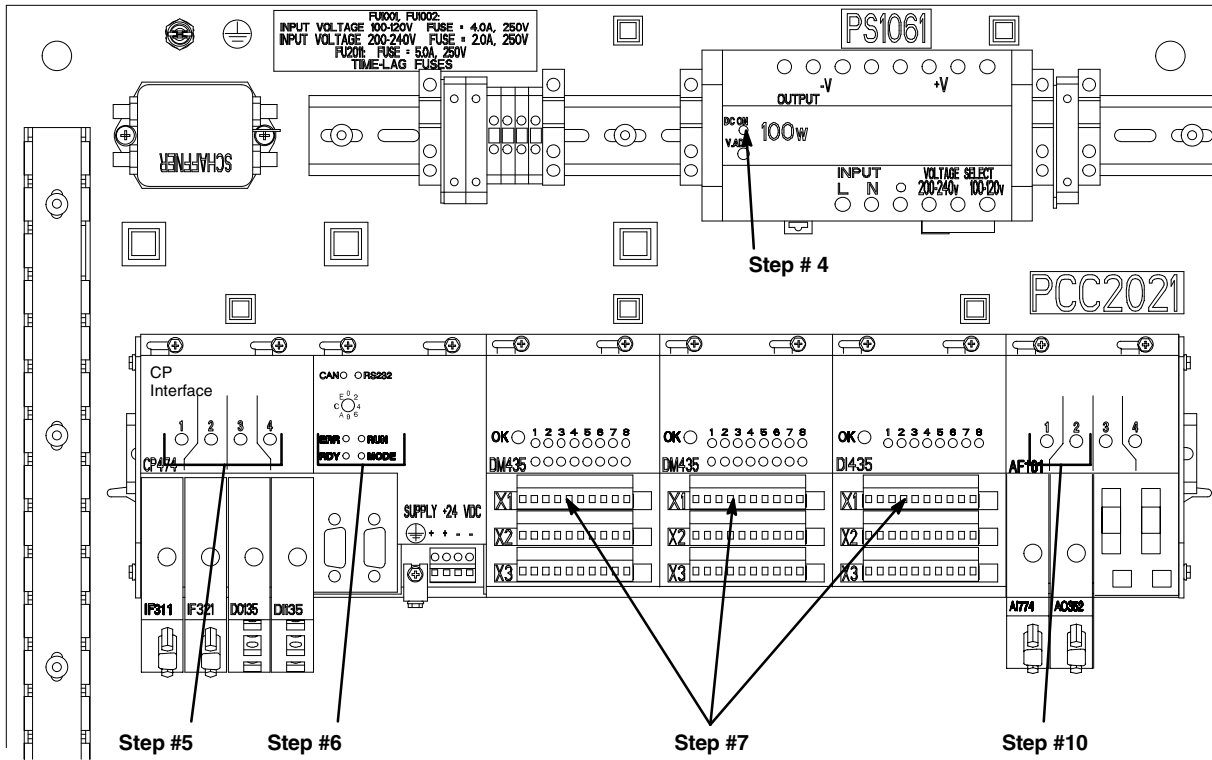

Fig. 3.23
5. Check that LEDs 1, 2, 3, and 4 on the controller interface module are lit. See Fig. 3.23.
6. Check that the CAN and RUN LEDs on the controller are lit, the ERR (error) LED is not lit, and the RS232 LED is blinking. See Fig. 3.23.
10. Check that the LEDs 1 and 2 on the analog interface module are lit. See Fig. 3.23.